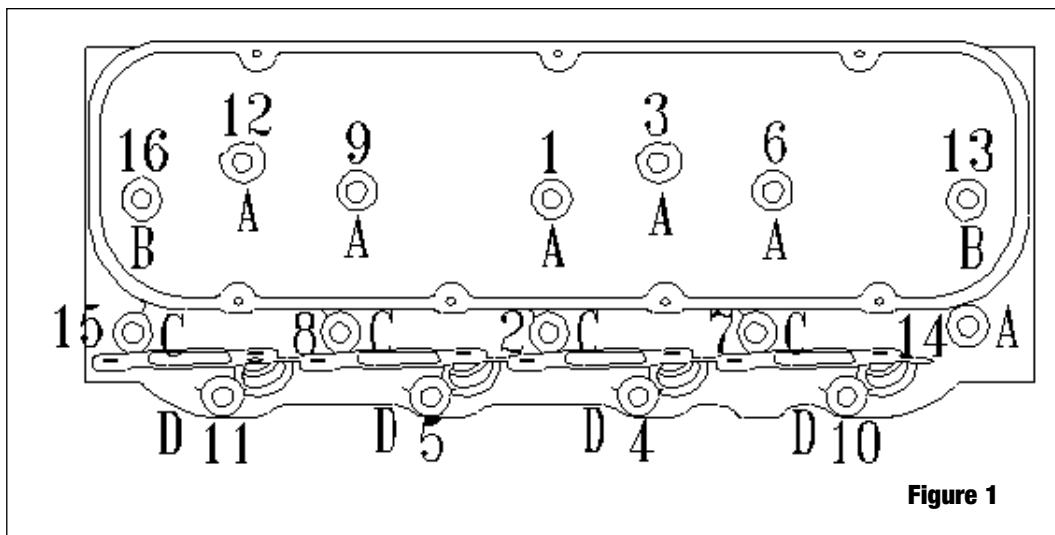

Figure 1
**HEAD BOLTS or STUDS:** High quality head studs or head bolts with hardened washers must be used to prevent galling of the aluminum bolt bosses. Edelbrock Head Bolt Kit #8551 includes eight longer-than-stock bolts which must be used with these cylinder heads. If you use any other head bolts, you must use the eight head bolts and washers supplied with these heads in positions #15, #8, #2, and #7 in Figure 1. These positions will not accept stock length head bolts.
**INSTALLATION:** Installation is the same as for original equipment cylinder heads. Consult service manual for specific procedures, if necessary. For 454 and smaller Mark IV engines, use Fel-Pro head gasket #1017-1 or equivalent. For 454 Mark V engines, use Fel-Pro head gasket #1037 or equivalent. For 502 c.i.d. Mark V engines, use Fel-Pro head gasket #1047 or equivalent. Be sure that the surface of the block and the surface of the head is thoroughly cleaned to remove any oily film before installation. Use alcohol or lacquer thinner on a lint-free rag to clean. Apply liquid teflon or suitable thread sealer to head bolt threads. Torque short bolts to 65 ft./lbs. and long ones to 75 ft./lbs. in three steps following the factory tightening sequence (see Figure 1). A re-torque is recommended after initial start-up and cool-down (allow 2-3 hours for adequate cooling).